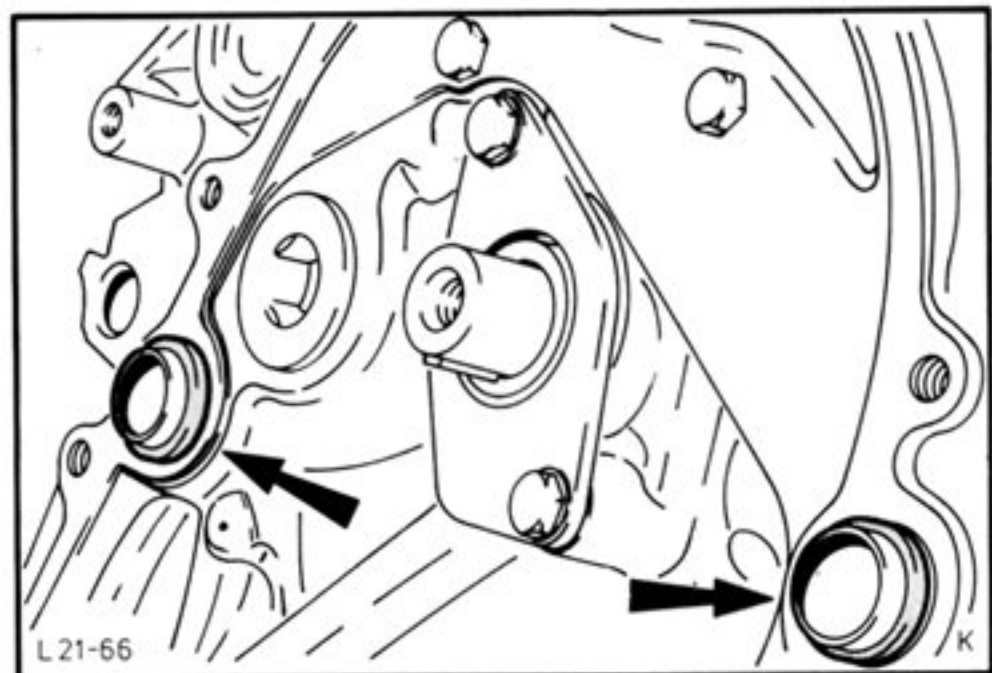

Fig.57. Guide sleeves with sealing rings.
44. Insert both guide sleeves with sealing rings fitted, without sealing compound, into cylinder block. Chamfered side of guide sleeve should face timing cover, Fig.57.